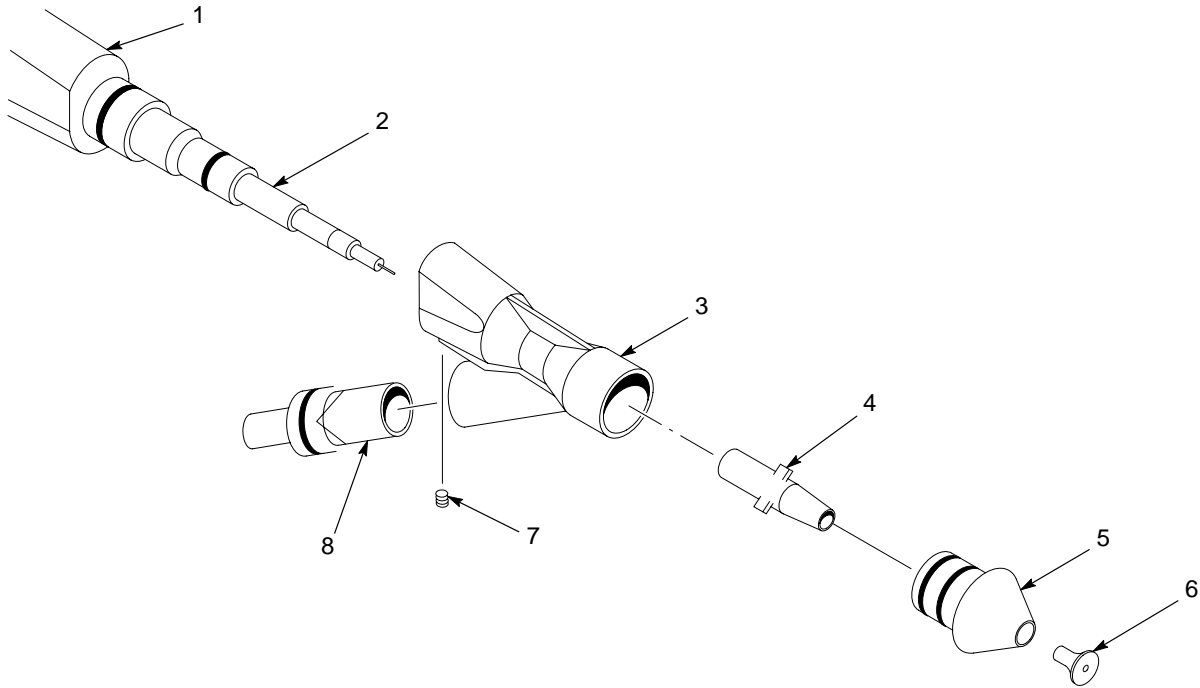

Figure 3 Daily Maintenance
2. See Figure 3. Remove the nozzle parts (items 4-6) from the spray gun.
3. Loosen the set screw (7) and pull the powder inlet body (3) straight off the gun.
5. Blow powder off the resistor probe (2) and extension (1). Wipe them with a clean, dry cloth. Carefully remove fused powder from the parts with a wooden or plastic dowel or similar tool. Do not use tools that will scratch the plastic. Powder will build up and impact-fuse on any scratches.